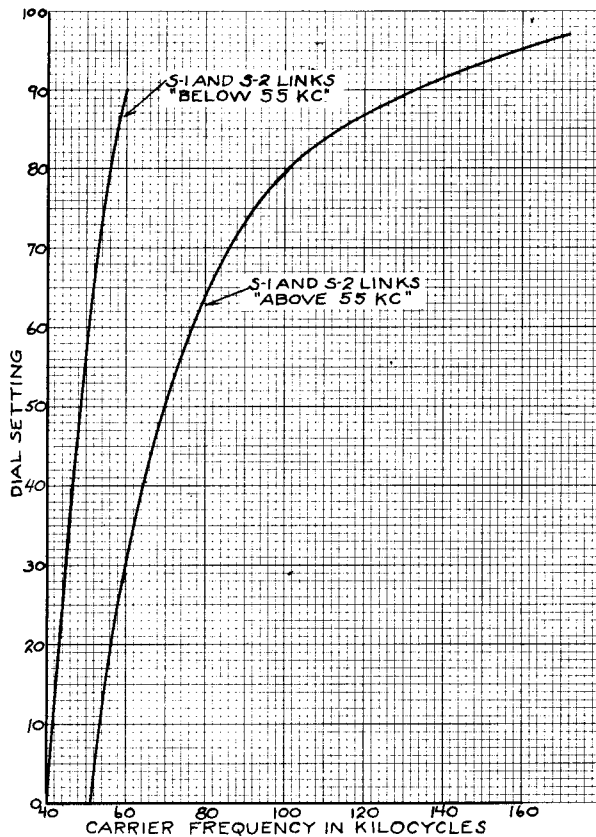

Figure 5
- c. Set the PRIMARY TUNING NO. 2 dial and the SECONDARY TUNING NO. 2 dial for the desired frequency, as indicated on dial calibration curve Figs. 5 and 6. If the desired frequency is below 55 kilocycles on the 50-150 kc receiver, use the curve marked BELOW 55 KC. If the desired frequency is above 55 kilocycles, use the curve marked ABOVE 55 KC. These curves show the approximate dial settings.